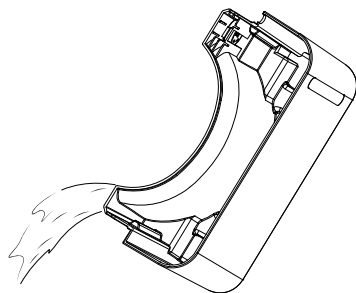

Fig. 3
- ◆ Empty the water tank **4** into a sink (see figure 3) and replace the water tank **4** in the appliance. The appliance resumes operation with the previously selected programme.